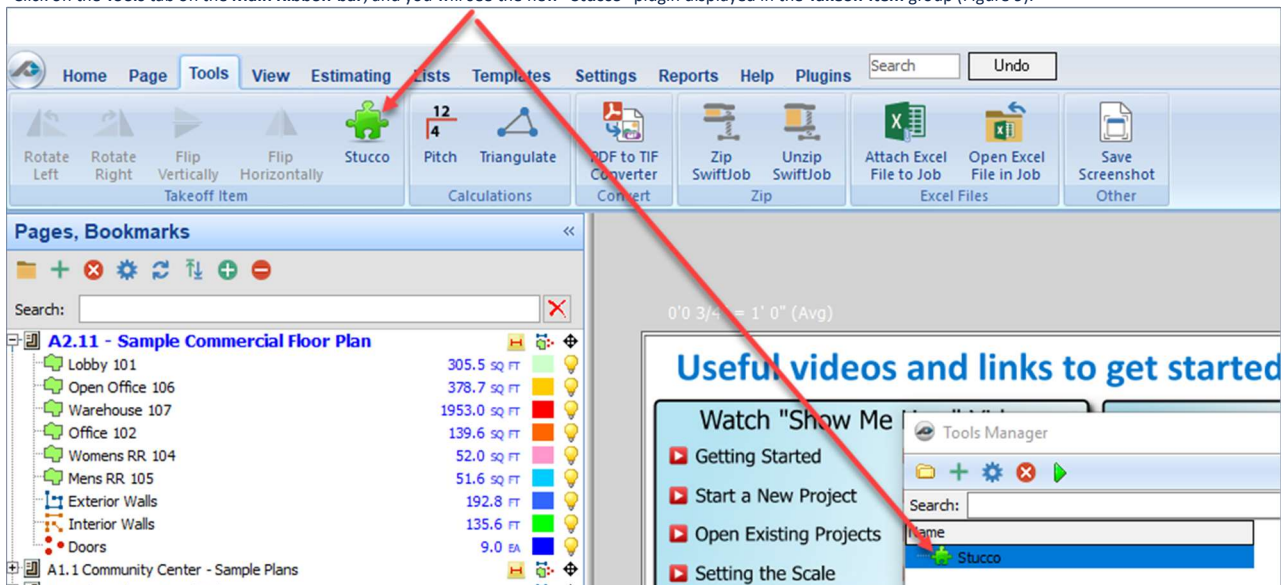

Figure 9
9. Click on the **Tools** tab on the **Main Ribbon-bar**, and you will see the new "Stucco" plugin displayed in the **Takeoff Item** group (Figure 9).